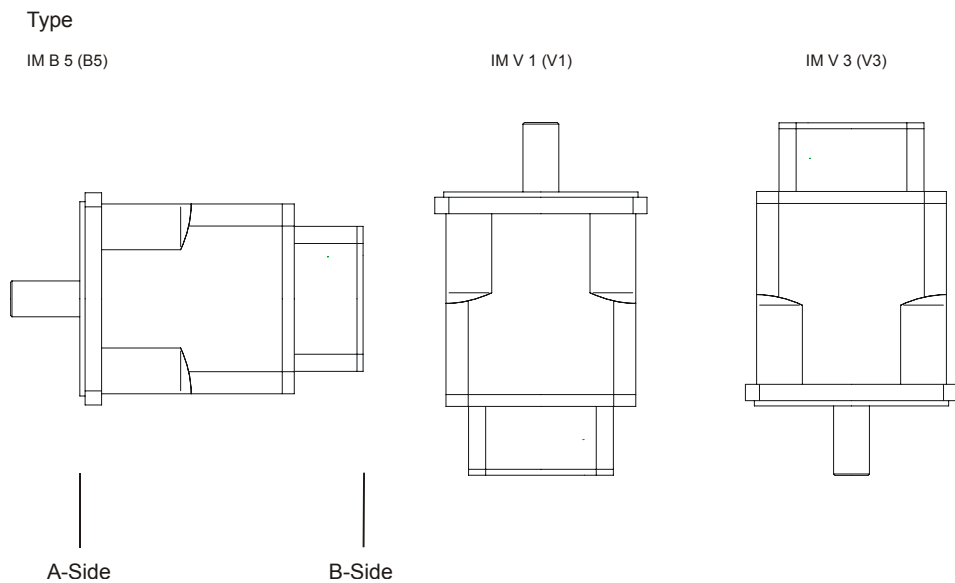

Fig. 2: Mounting Positions of JH3 Motors
- Protect the motors against liquids soaking into the bearing in case the shaft end is installed upwards (design V1); refer to Fig. 2.
Installation	<ul style="list-style-type: none"> • Horizontal position (B5) to Fig. 2 on Page 22 • If the module is operated at an altitude higher than 1,000 m above sea level, derating will be required. • A clearance of at least 10 cm above and below the motor must be maintained to provide proper air circulation.